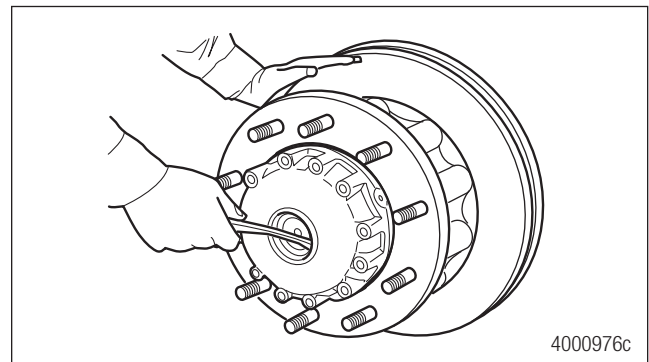

Figure 6.2
8. Pry the hubcap off the wheel end. Figure 6.2.